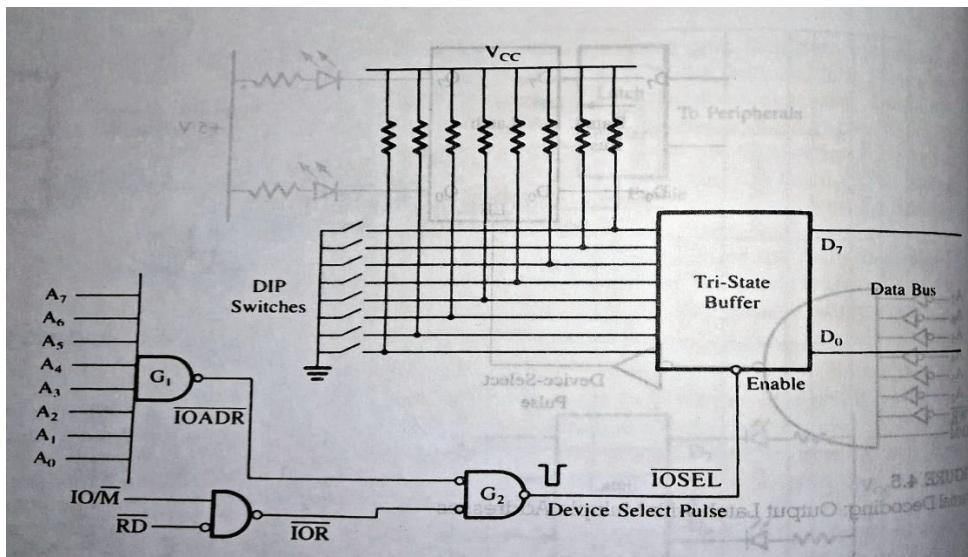

Figure 4.6 :- Decode Logic for a Dip – switch Input Port
Figure 4.6 shows an example off interfacing an 8-key input port. The basic concepts behind this circuit are similar to the interfacing concepts explained earlier.
3. In figure 4.6, data flow from the keys to the accumulator on the other hand, in figure, data flow from the accumulator to the LEDs.